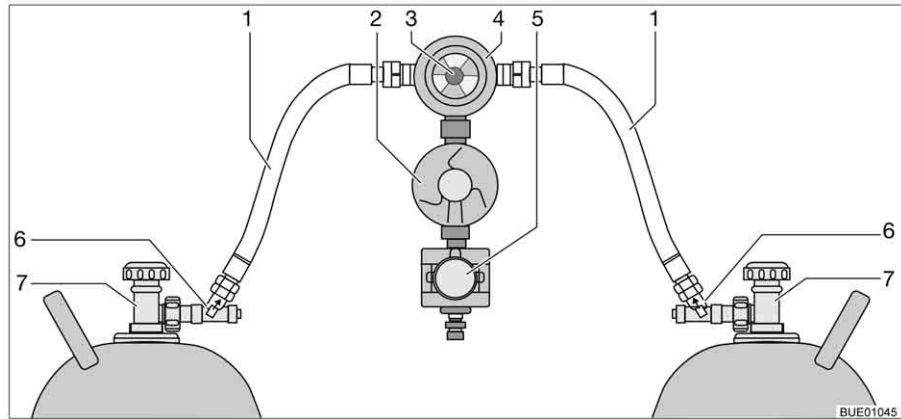

Fig. 125 Crash protection unit switching facility
The crash protection unit consists of two flow restrictors with manual release button (Fig. 125,6) a reversing valve (Fig. 125,4) with pressure regulator (Fig. 125,2), an electrovalve (Fig. 125,5) and the operating unit with tricoloured LED (Fig. 125,1).
Use the knob (Fig. 125,3) on the reversing valve to select which of the gas bottles is to be used as a primary bottle and which is to be used as a reserve bottle.
Only the electrical functions can be switched at the operating unit (Fig. 126). The regulator taps on the gas bottles (Fig. 125,7) and the release buttons (Fig. 125,6) must be opened manually.
- Open the regulator taps of the gas bottles (Fig. 125,7).
- Press the release buttons (Fig. 125,6) successively for 10 seconds.
- Use the knob (Fig. 125,3) on the reversing valve (Fig. 125,4) to select the gas bottle which is to be the primary source of gas (primary bottle). Always turn the knob as far as it will go.
- Close the regulator taps of the gas bottles (Fig. 125,7).